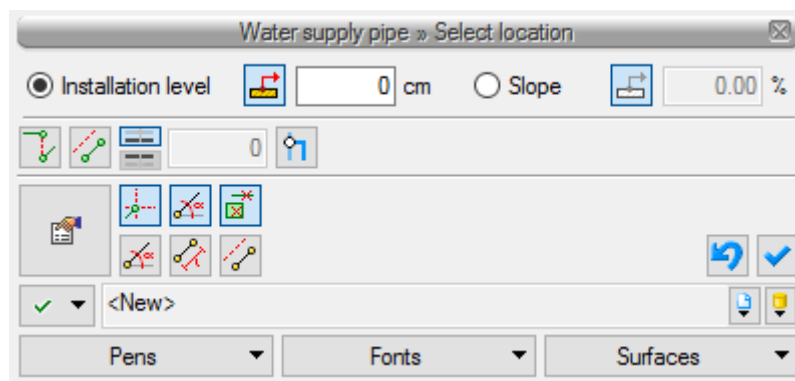

Fig. 74. Horizontal pipeline end insertion window
**Slope** - the value calculated as the difference between the beginning and ending of the pipeline installation levels. The slope can be set in the section ending insertion window Fig. 74.